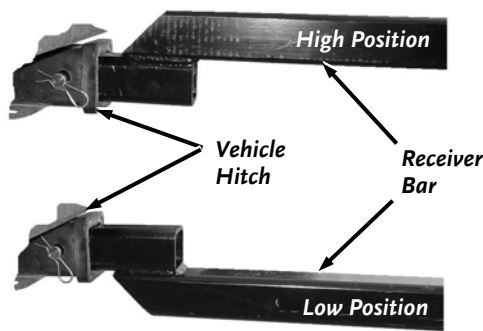

Figure 41
*NOTE: The end of the Receiver Bar that inserts into your vehicle hitch features a dual-height positioner. By turning the Bar 180° (up or down) in the vehicle hitch, your Wood Splitter can be oriented in a high or low position (**Figure 41**). Use the HIGH position when transporting your Wood Splitter, and use either the HIGH or LOW position when splitting wood.*
NOTE: When transporting your Wood Splitter, be sure to carry it in the HIGH position (**Figure 41**) and slide it as close to your vehicle as possible without hitting any part of the vehicle. Secure it in position by hand tightening the L-Shaped Tensioning Bolt (**Figure 45**). Always be sure to have the Clevis Pin and Clip inserted into the end of the Receiver Bar.